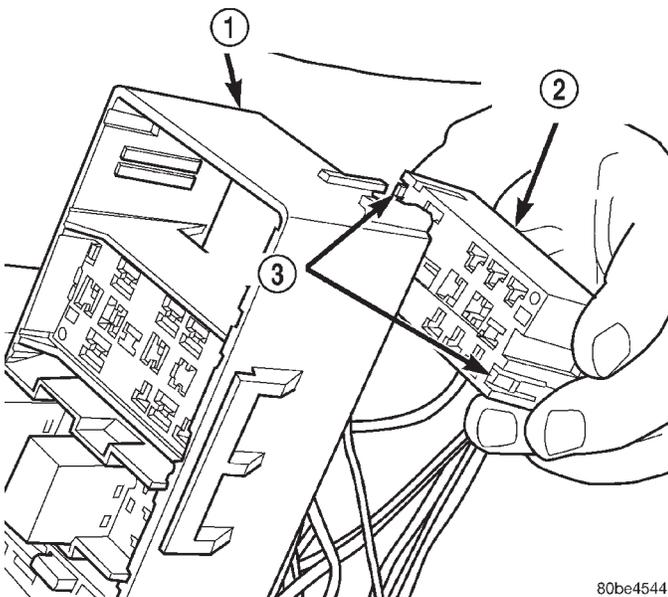

Fig. 14 PDC Relay Cassette Remove/Install
(4) From the bottom of the PDC housing, remove the relay cassette from the PDC (Fig. 14).